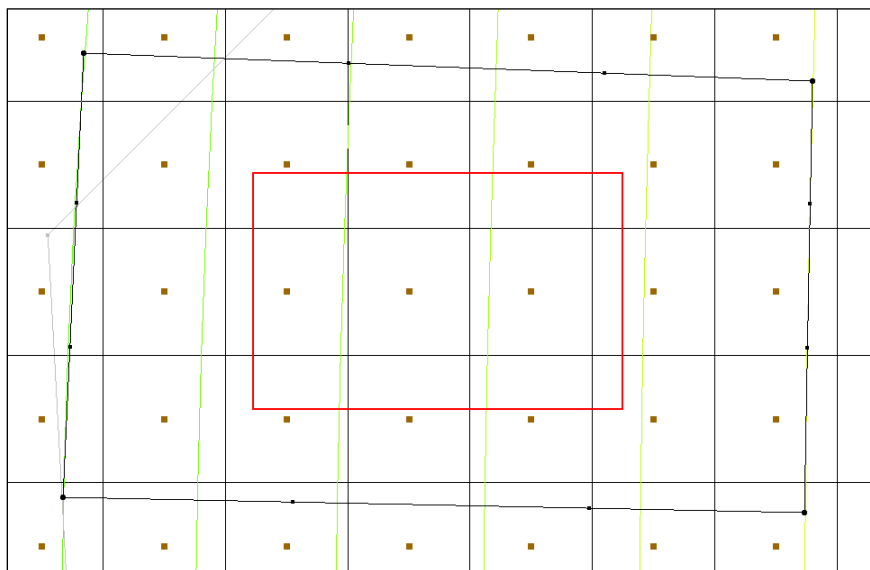

Figure 4 Boundary arcs to be created
- Using the **Create Arc**  tool, create four arcs, two parallel to the contours, and two perpendicular to the contours as shown in Figure 4. Double-click on the corners to end each arc.